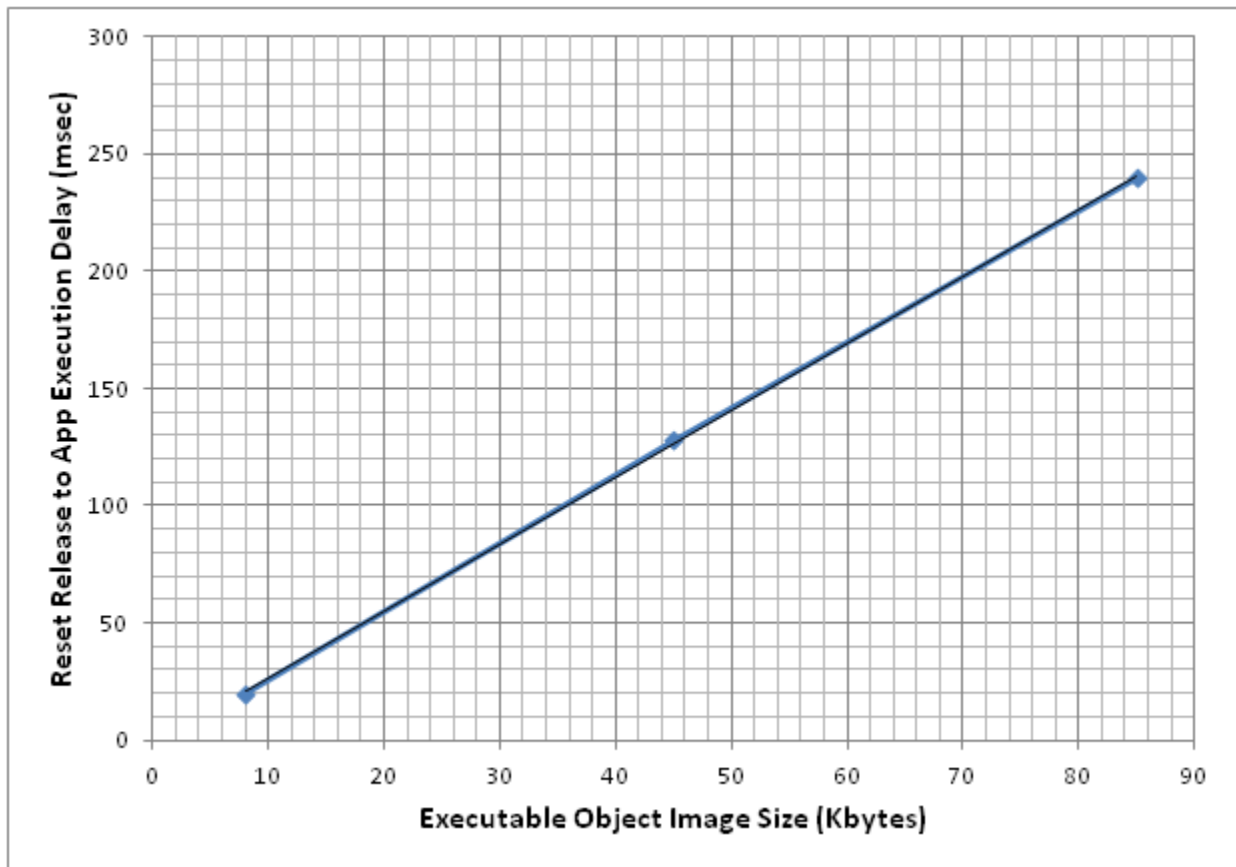

Figure 3-20. Reset Wakeup Delay vs. Executable Object Size
- Figure 3-20 shows wakeup delay versus object code size. The delay time increases because the boot code must move a bigger image from serial NVM to RAM